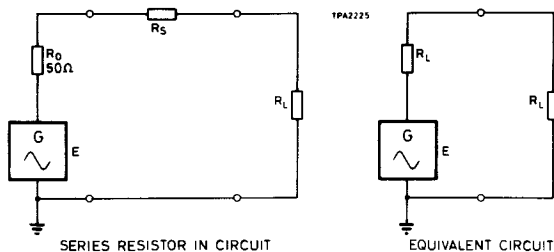

Fig. 4 High impedance matching.
21. To match a load that is greater than 50 Ω to the output of TF 2016A a resistor  $R_S$  is required to be added in series with the generator output as in Fig. 4. The value of  $R_S$  is given by the difference between the load and the generator impedances, i.e.
Circuit diagram : Chap. 7, Fig.4 (A1 & A2)